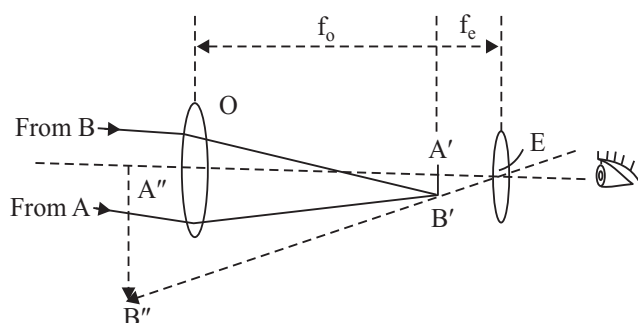

Fig. 19.1: Ray diagram of telescope
- (1) Both lenses must be made of a good opthalmic or optical glass and not cheap ones made of window glass. It ensures that the image A' B' (Fig. 19.1) has enough details and these are seen clearly by lens E.
- (2) It is preferable that the lenses are plano convex. If so the plane sides of both the lenses will be kept towards your eye. But double convex lenses will also make a good telescope, if these are of good glass.